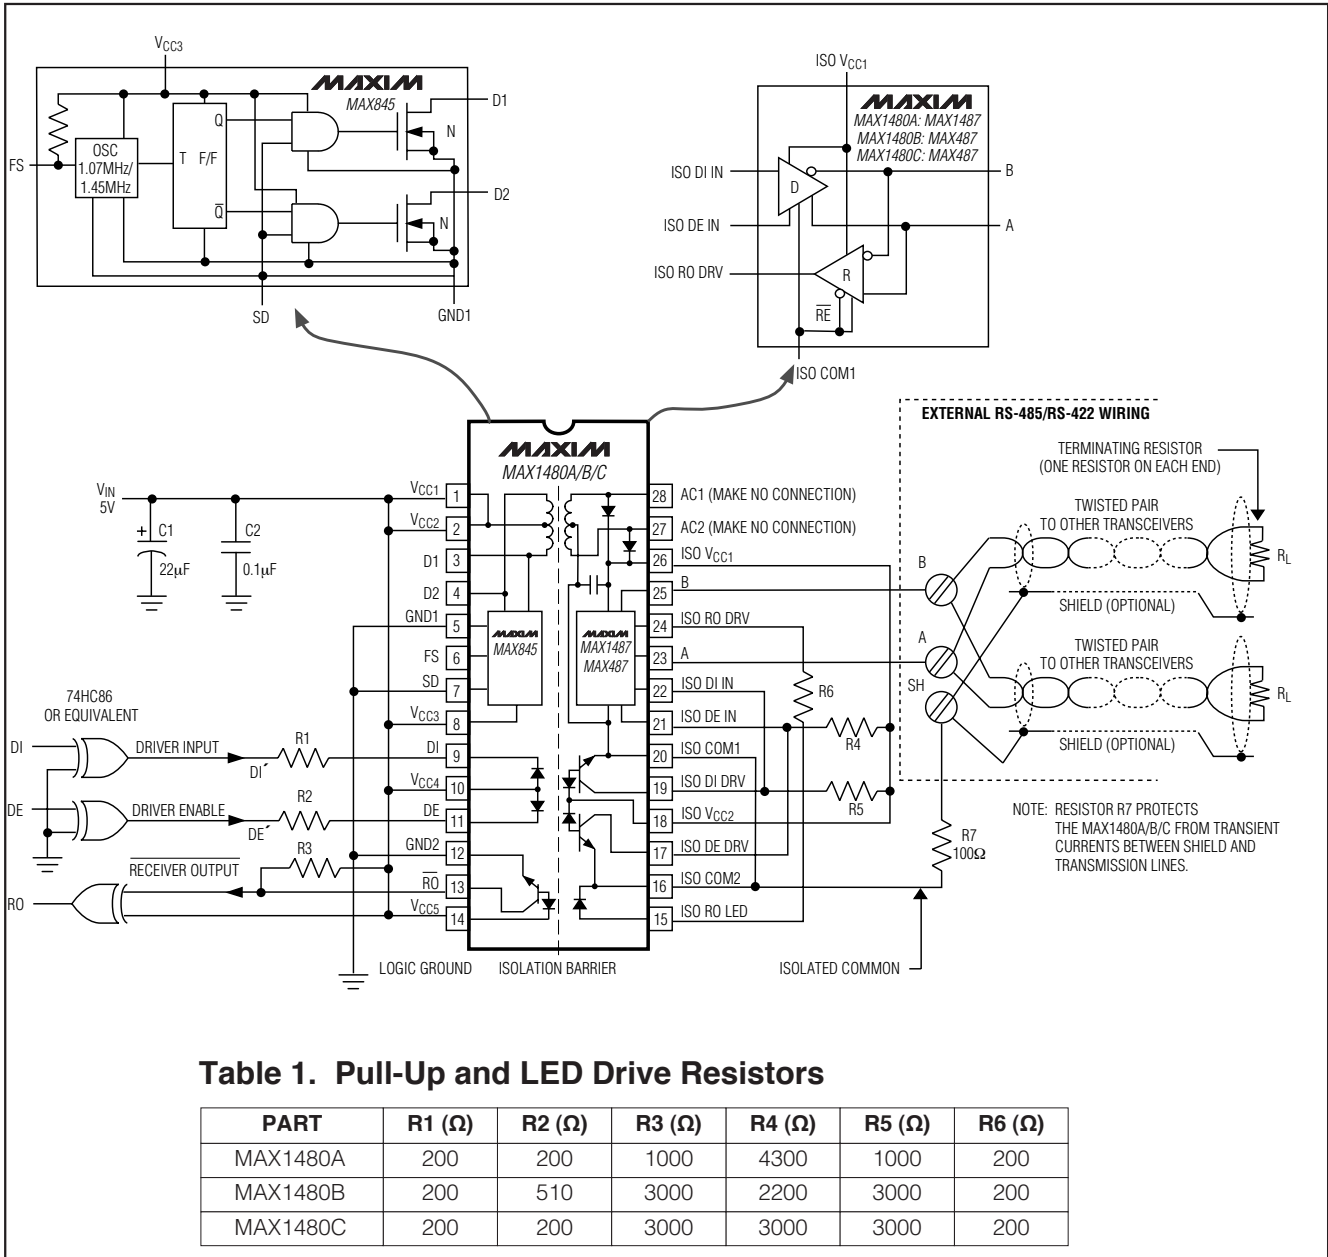
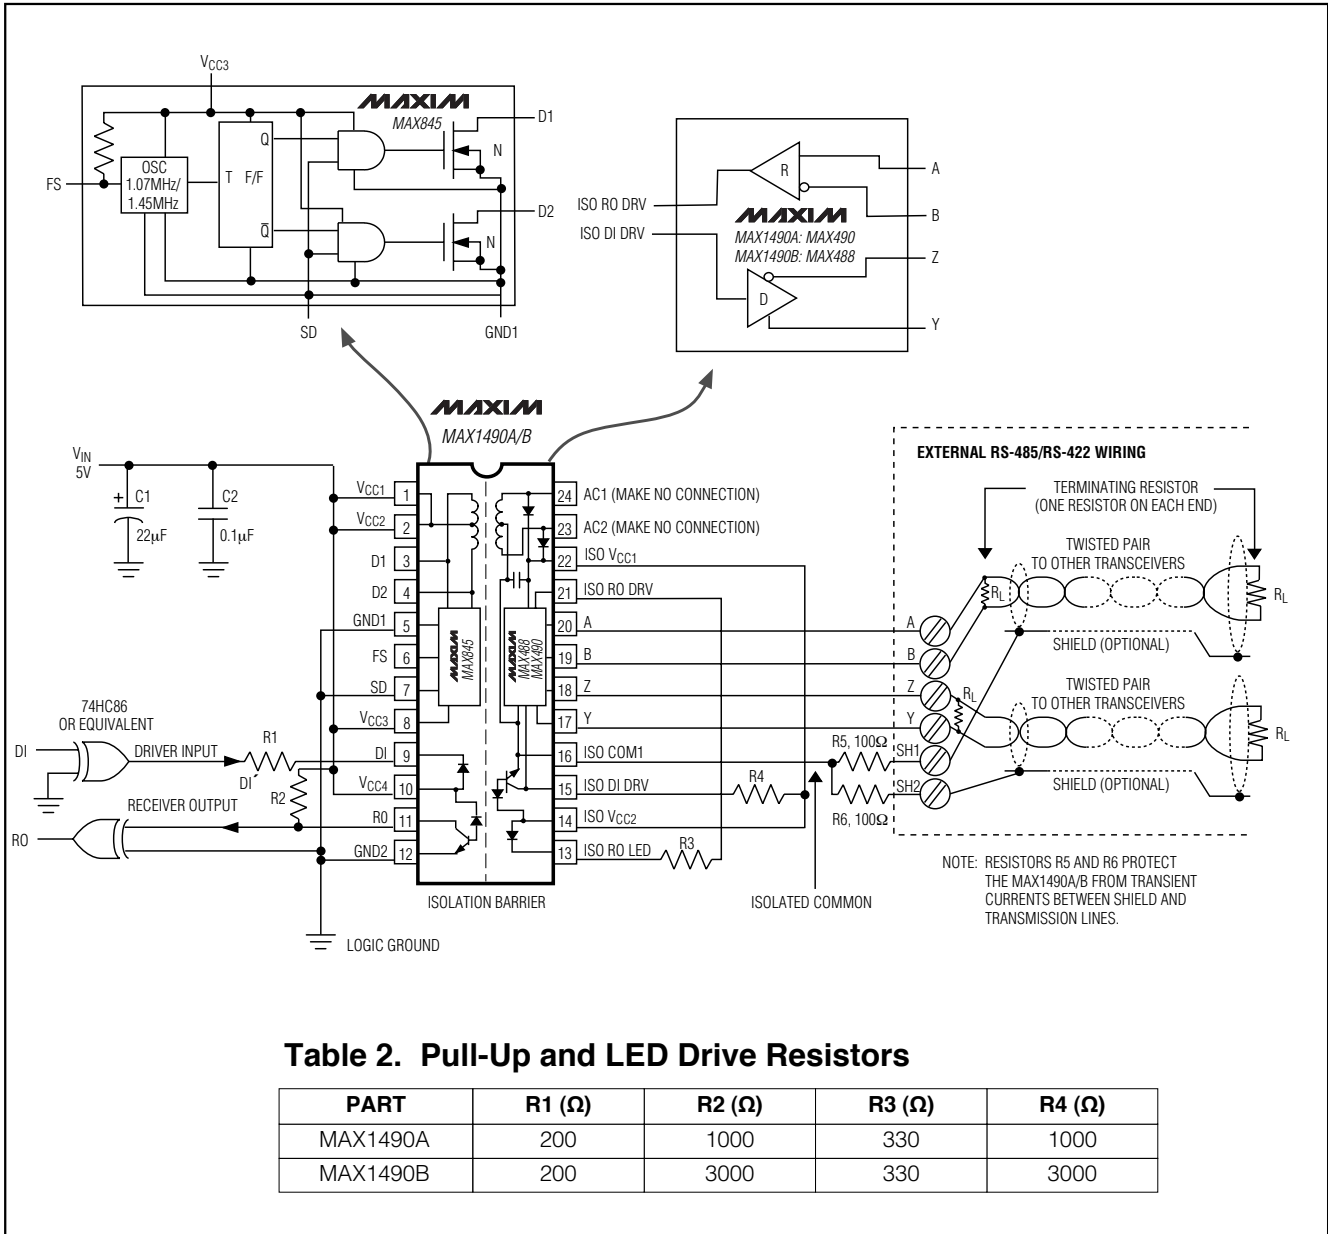

Figure 1. MAX1480A/MAX1480B/MAX1480C Detailed Block Diagram and Typical Application Circuit
Figure 2. MAX1490A/MAX1490B Detailed Block Diagram and Typical Application Circuit
Note 2: For DE⁺ and DI⁺ pin descriptions, see *Detailed Block Diagram and Typical Application Circuit* (Figure 1 for MAX1480A/MAX1480B/MAX1480C, Figure 2 for MAX1490A/MAX1490B).
Note: For DE[̄] and DI[̄] pin descriptions, see *Detailed Block Diagram and Typical Application Circuit* (Figure 1 for MAX1480A/B/C, Figure 2 for MAX1490A/B).
The MAX1480A/MAX1480B/MAX1480C/MAX1490A/MAX1490B are complete, electrically isolated, RS-485/RS-422 data-communications interface solutions. Transceivers, optocouplers, a power driver, and a transformer in one standard 28-pin DIP package (24-pin for the MAX1490A/B) provide a complete interface. Signals and power are internally transported across the isolation barrier (Figures 1, 2). Power is transferred from the logic side (nonisolated side) to the isolated side of the barrier through a center-tapped transformer. Signals cross the barrier through high-speed optocouplers. A single +5V supply on the logic side powers both sides of the interface. The MAX1480A/B/C offer half-duplex communications while the MAX1490A/B feature full-duplex communication. The functional input/output relationships are shown in Tables 3–6.
* For DE[⎚] and DI[⎚] pin descriptions, see *Detailed Block Diagram and Typical Application Circuit* (Figure 1 for MAX1480A/B/C, Figure 2 for MAX1490A/B).
The MAX1480A/MAX1480B/MAX1480C/MAX1490A/MAX1490B are specified and characterized using the resistor values shown in Table 1 of Figure 1 and Table 2 of Figure 2. Altering the recommended values can degrade performance.
The isolated common may be completely floating with respect to the logic ground and the effective network ground. The receiver input resistors will cause the isolated common voltage to go to the mean voltage of the receiver inputs. If using shielded cable, connect the isolated common to the shield through a 100Ω resistor. In the case of the MAX1490, each shield should have its own 100Ω resistor (Figures 1, 2, 13, and 14).